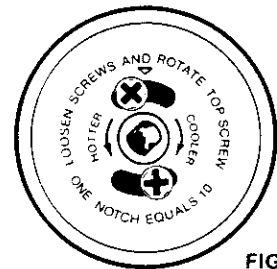

FIG. 2
**EXAMPLE:** If the oven temperature is too cool and ALL foods are requiring a longer time period to cook, the knob should be rotated to move the top screw toward the word "HOTTER". (See Fig 2.)